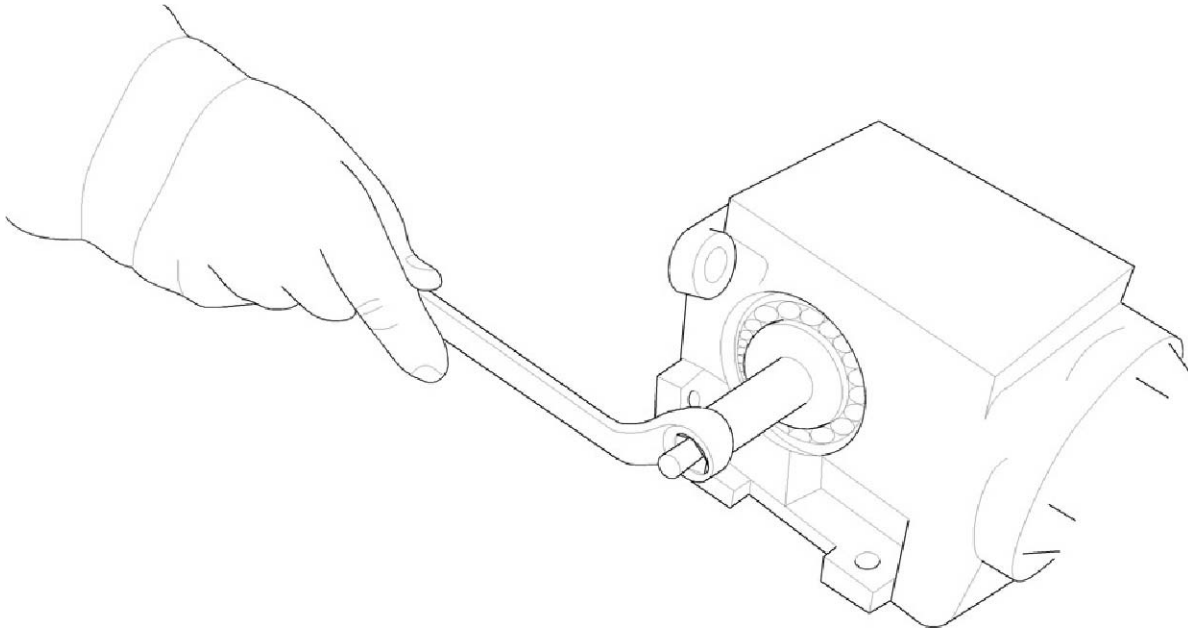

Fig. 5-10 Removing the drive shaft pivot.
13. Remove the pivot of the driving shaft, as shown in Figure 5-10.